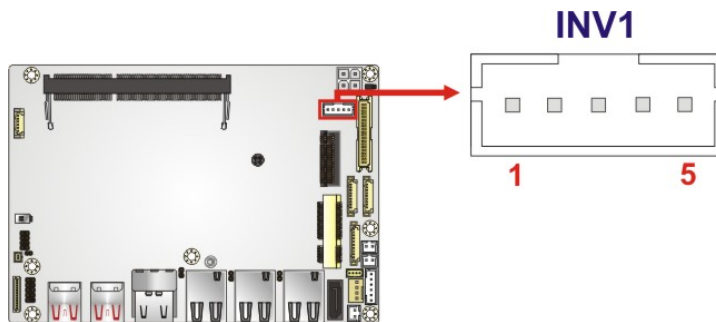

Figure 3-9: Backlight Inverter Connector Location
- CN Location:** See **Figure 3-9**